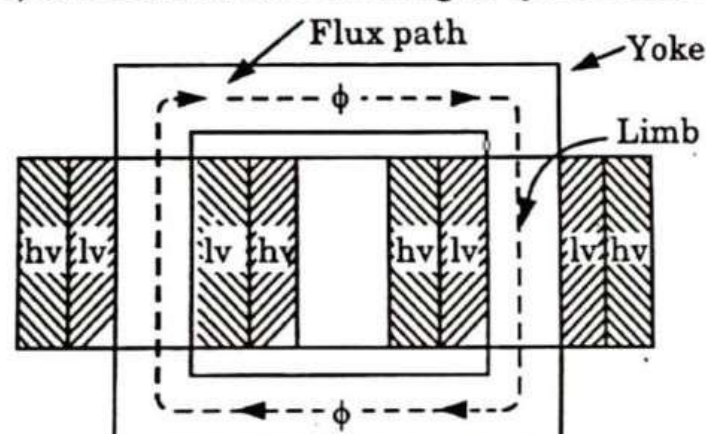

Fig. 3.5.1. Core-type transformer.
2. To keep the leakage flux to a minimum, half of each winding is placed on each leg of the core as shown in Fig. 3.5.1.